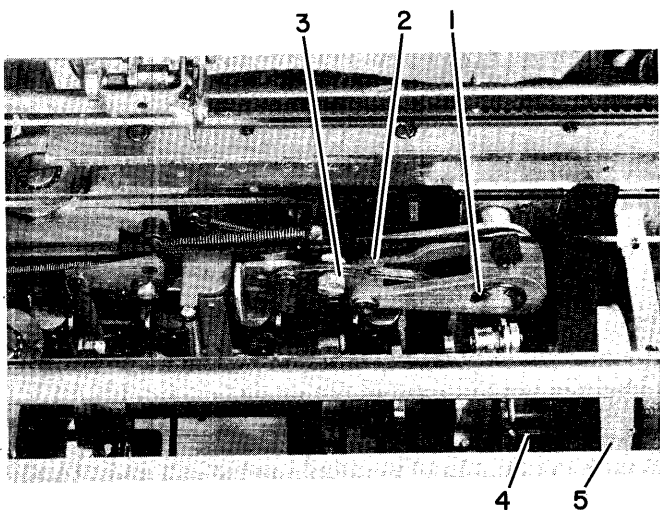

Figure 61. Cycle Clutch Pulley Removal
2. Remove the "C" clip from the rotate bellcrank pivot pin (#1, Figure 61).
4. Remove "C" clip and remove pivot pin (#2, Figure 61).
5. Push down on the rotate balance arm (#3, Figure 61) and lift up on the rotate bellcrank until the two are clear of each other and then remove the bellcrank.
8. Remove the bottom latch screw, loosen the top latch screw and slide the latch up and out (#4, Figure 61).
9. Take the belt off the pulley and remove the pulley (#5, Figure 61).